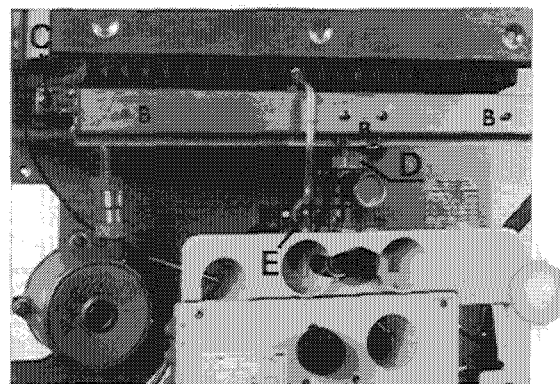

Fig. 21
7.2.1 To clean the burner (fig. 21)
- Remove pilot clamp screw (A fig. 21)
- Carefully unscrew the nut retaining the pilot injector (F fig. 21) taking care not to lose the injector which is in the form of a small washer using a 8 mm or adjustable spanner. Clean the injector by blowing also clean pilot filter.